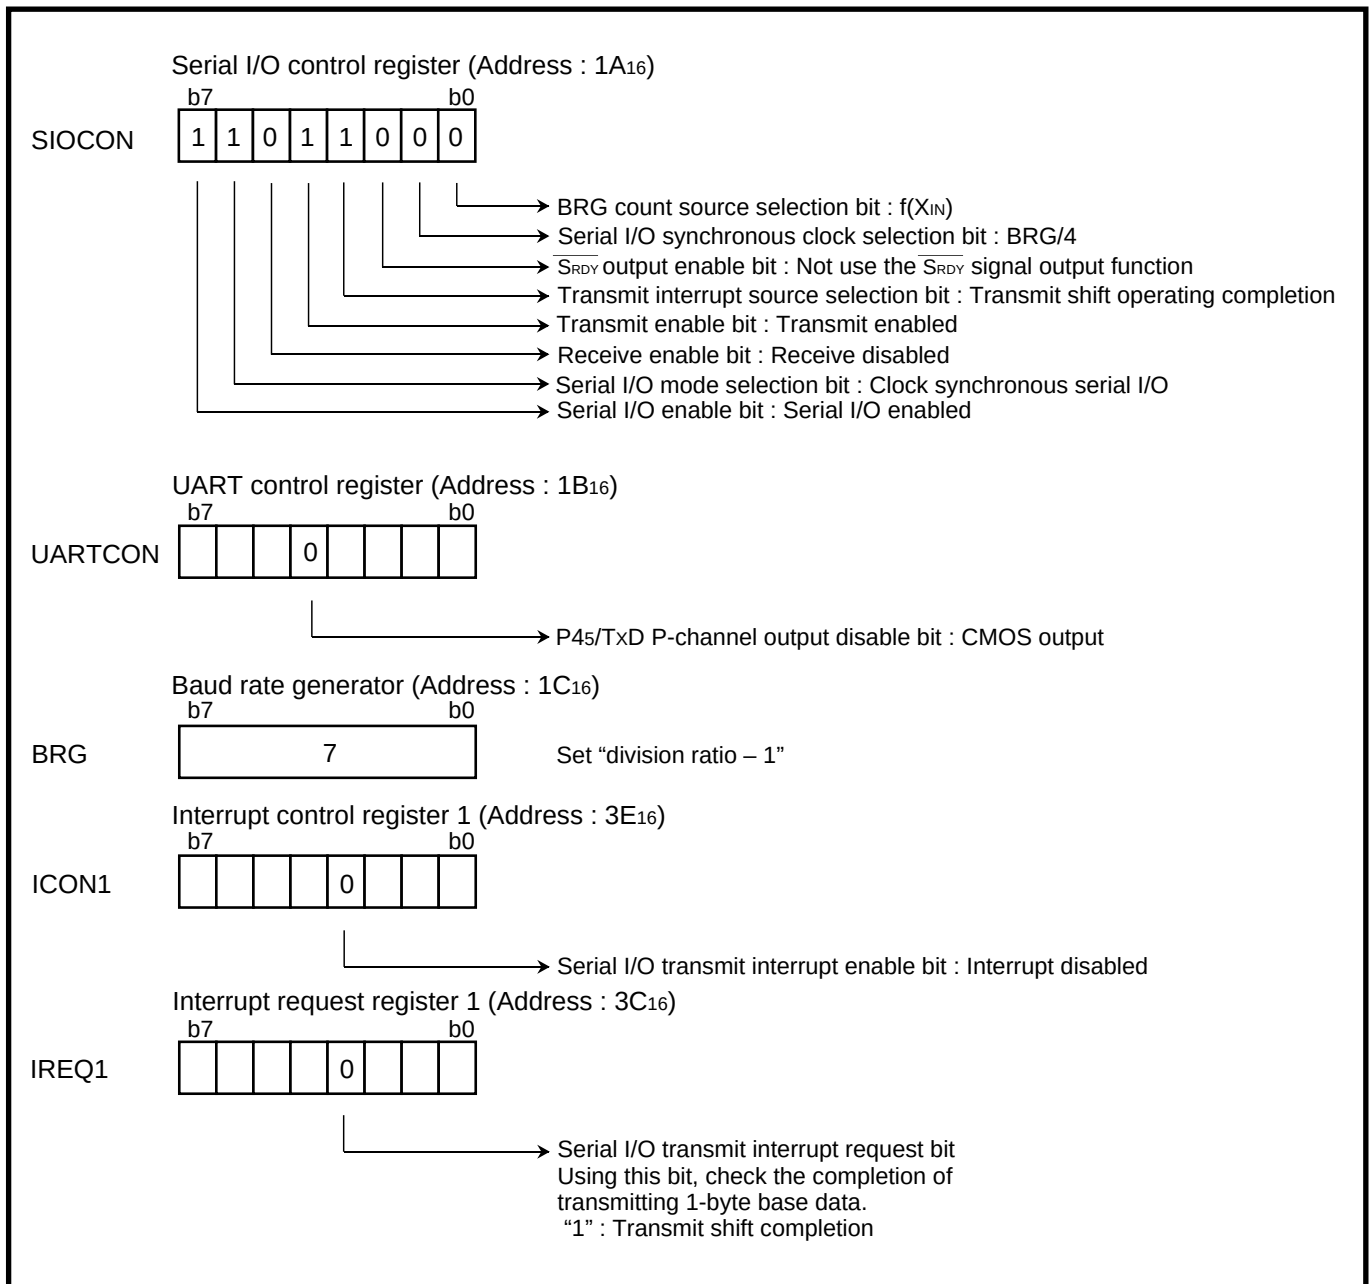

Fig. 2.3.21 Setting of serial I/O related registers [Output of serial data]
Figure 2.3.21 shows a setting of serial I/O related registers, and Figure 2.3.22 shows a setting of serial I/O transmission data.
**Control procedure :** When the registers are set as shown in Figure 2.3.21, the Serial I/O can transmit 1-byte data simply by writing data to the Transmit buffer register. Thus, after setting the CS signal to “L,” write the transmission data to the Receive buffer register on a 1-byte base, and return the CS signal to “H” when the desired number of bytes have been transmitted.